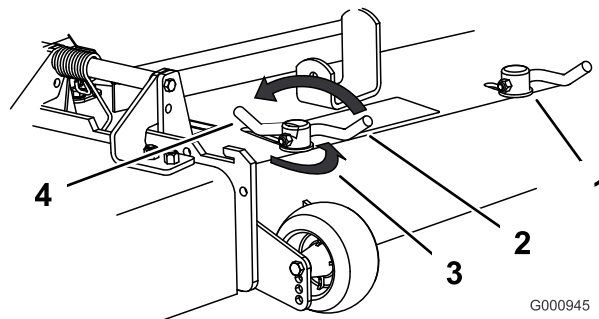

Figure 20
3. To adjust the cam locks, swing the lever up to loosen the cam lock (Figure 20).
5. Swing the lever back over to tighten the baffle and cam locks (Figure 20).